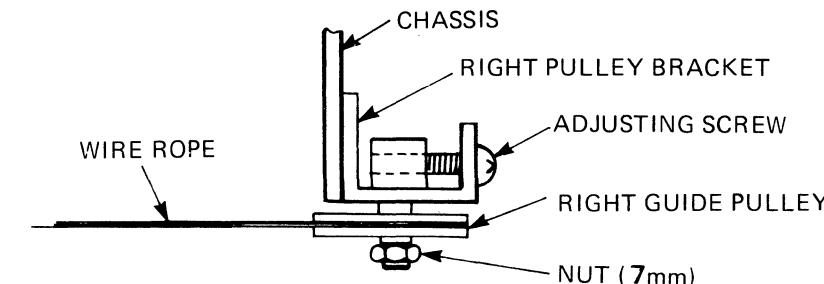

Figure 5-5 Wire Rope Tension Adjustment
- Remove the cover over the nut near the right guide pulley. Loosen the nut (see Figure 5-5).